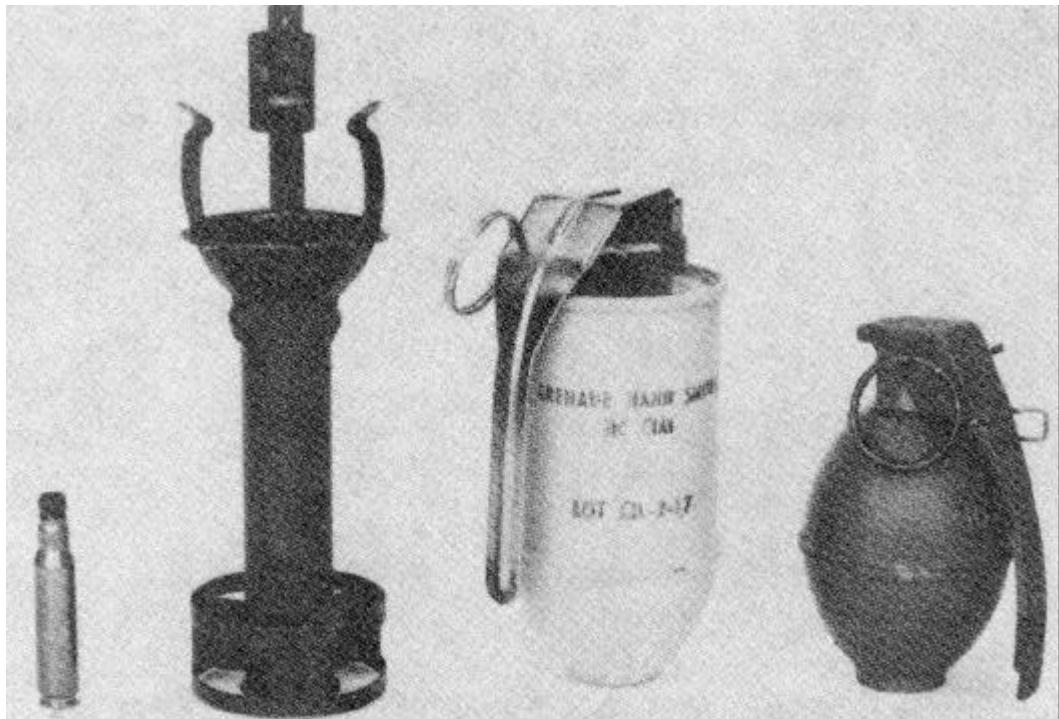

Figure 4-2      Grenade Cartridge, Adapter and Grenades
1. Adapter, Grenade, Projection M1A2. The adapter consists of four parts: a fin assembly, a stabilizer tube, a cup, and three claws. It is fabricated from sheet steel with three spring-steel claws adjusted to grip the grenade body. The fin assembly, which stabilizes the grenade during flight, is attached to the rear of the stabilizer tube. The cup and claws, attached to the forward end of the stabilizer tube, hold the grenade in place during projection. The longest of the three claws contains an arming clip which is held in place by a brittle piece of metal: the arming clip retainer. The adapter is coloured OLIVE DRAB and has BLACK markings. See Figure 4-2.